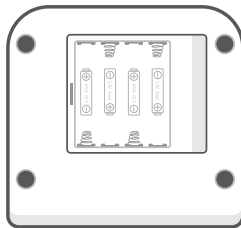

Figure 1
2. Install the batteries by matching the correct polarity [Figure 1].